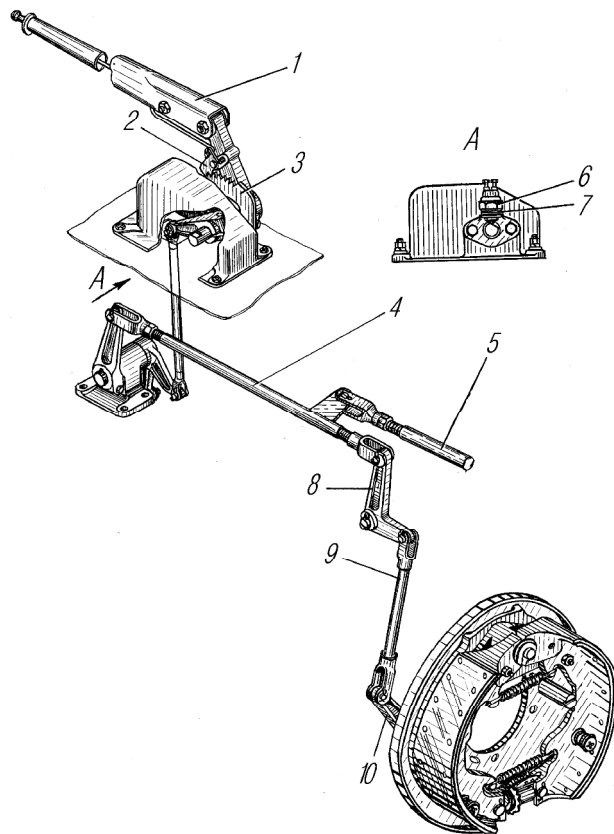

Fig. 84. Parking Brake Control:
As the linings are being worn, travel of lever 1 (Fig. 84) increases and the brake efficiency can decrease. If lever 4 is mounted on the 12 th tooth of the segment, it is required to adjust clearances between the linings and drum with the help of eccentric and sprocket. Adjust the brake as follows:
5. Select free travel of lever 8 (see Fig. 84) on the transfer box, turning it counter - clockwise until the effort to be applied increases appreciably, and check if the hole in tie rod 4 fork coincides with the hole in lever 8. If required, match the holes by rotating the fork of tie rod 4. Install the pin and cotter it.